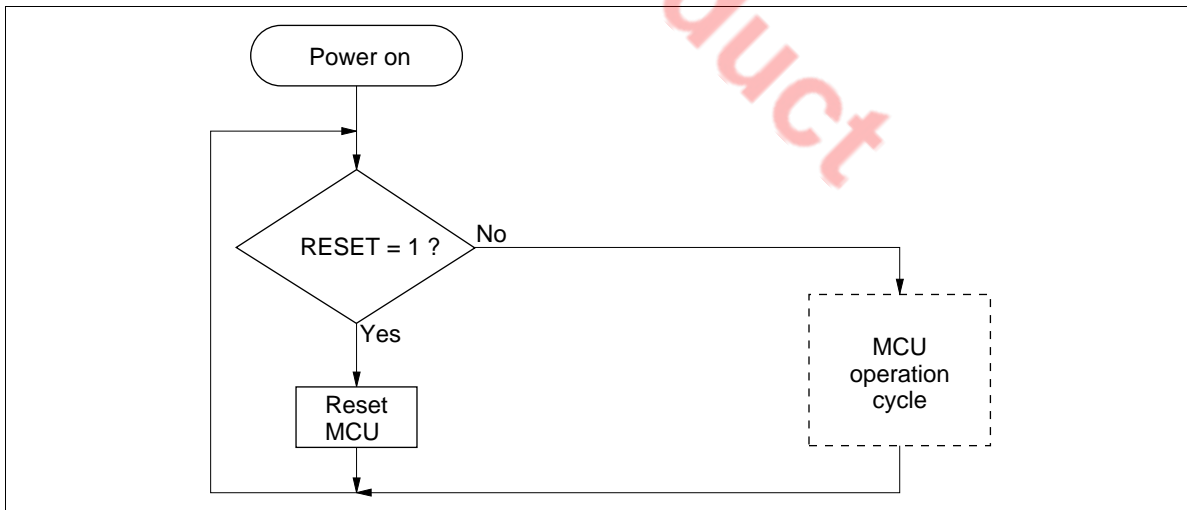

Figure 16 MCU Operating Sequence (power on)
**MCU Operating Sequence:** The MCU operates in the sequence shown in figures 16 to 18. It is reset by an asynchronous RESET input, regardless of its state.